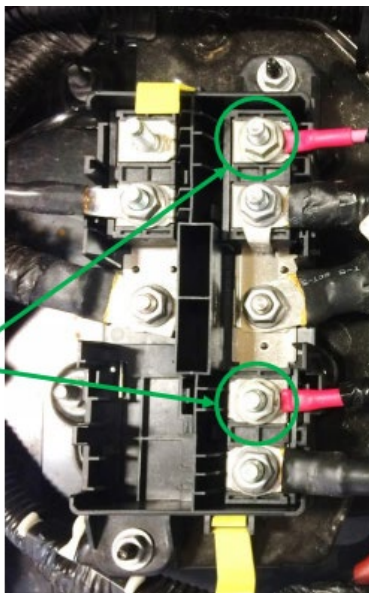

Figure 1
2. Verify that eyelets are offset from each other or on separate terminals (see figure 1 & 2).